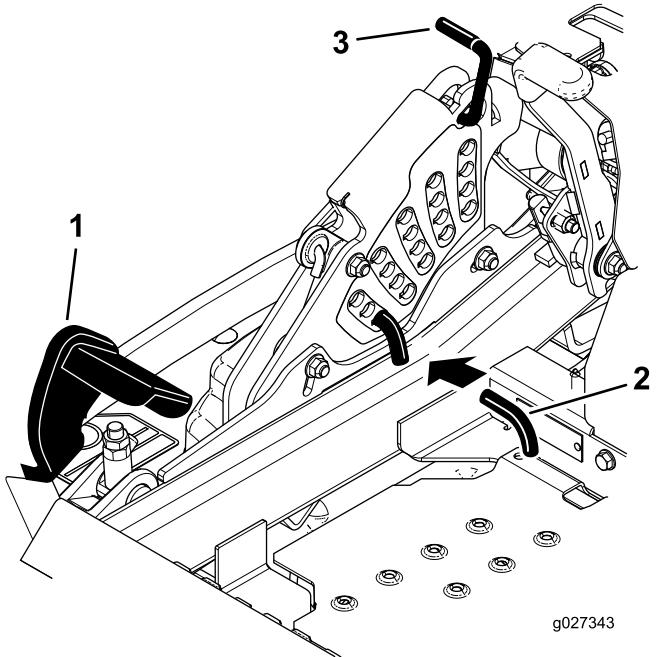

Figure 27
- Push on the deck-lift pedal with your foot, and raise the mower deck to the transport position (also the 140 mm (5-1/2 inches) cutting height position) as shown in Figure 27.
- To adjust, rotate the pin 90 degrees and remove the pin from the height-of-cut bracket (Figure 27).
- Select a hole in the height-of-cut bracket corresponding to the height-of-cut desired, and insert the pin (Figure 27).